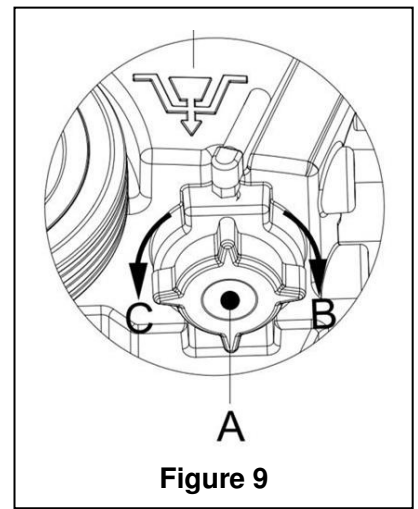

Figure 9
7. As shown in Figure 9, turn open the lid of Solution tank (A) counter clockwise (direction C), to drain Solution tank completely. Use clean water to rinse the inside of Solution tank. When work is completed, replace the solution tank lid (A) by twisting in a clockwise in direction (B).